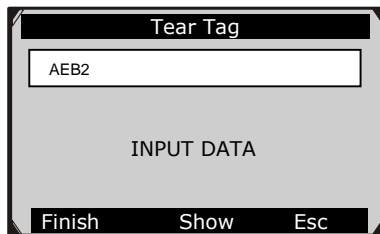

Figure 6.11
- 4) Taking the **Tear Tag** option for example, you will need to fill up accurate vehicle information in the input entry on the menu screen. (Figure 6.11)